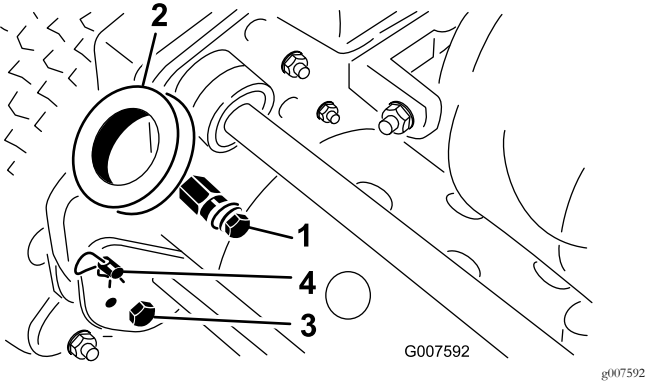

**Figure 3**
4. Squeeze the handle ends inward and install them on the mounting pins (Figure 3).
5. Secure the handle ends to the mounting pins with the bolts, washers, and lock washers previously removed (Figure 3).
6. Secure the handle arms to the rear of the frame with the hairpin cotters and the ring pins previously removed (Figure 3).